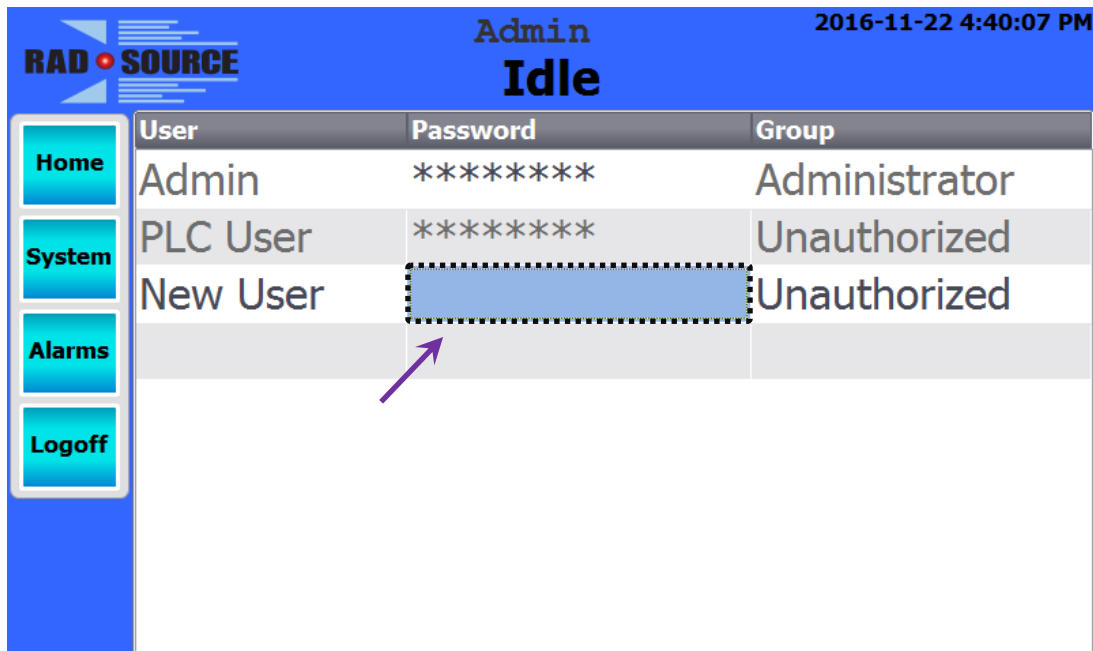

Figure 27: Password Field
5. Double tap the *Password* field to the right of your user name and create a new password (4-24 character limit, without any special characters [such as /, *, %, (, or)]). Confirm by re-entering the same password. (See Fig. 27 and 28.)